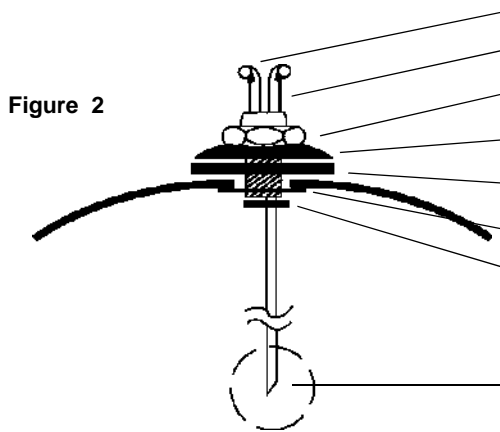

Figure 2
- Mount the fuel pick-up pipe as shown in Figure 2.